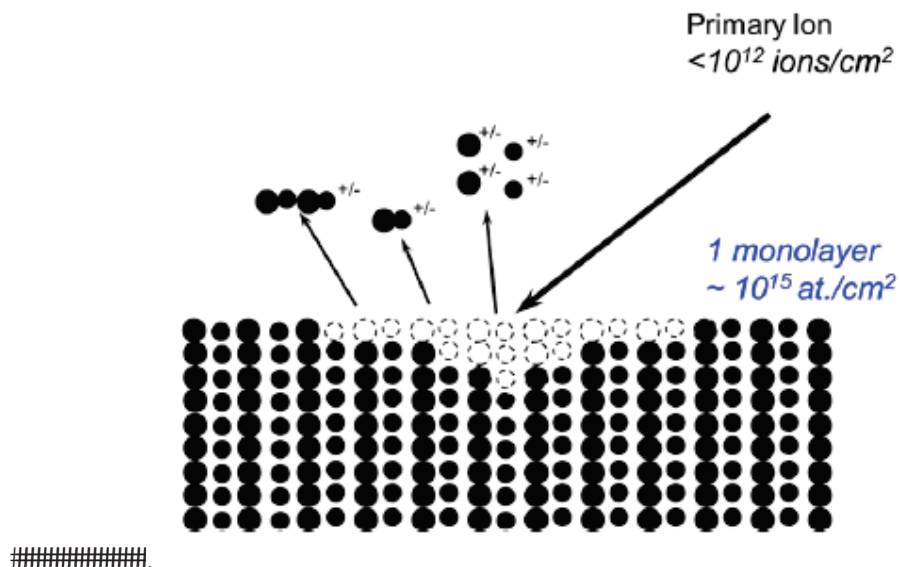

Figure 4. Schematic of a static SIMS process.
- (c). Based on Figure 4, what are the advantages of static SIMS for material characterizations?